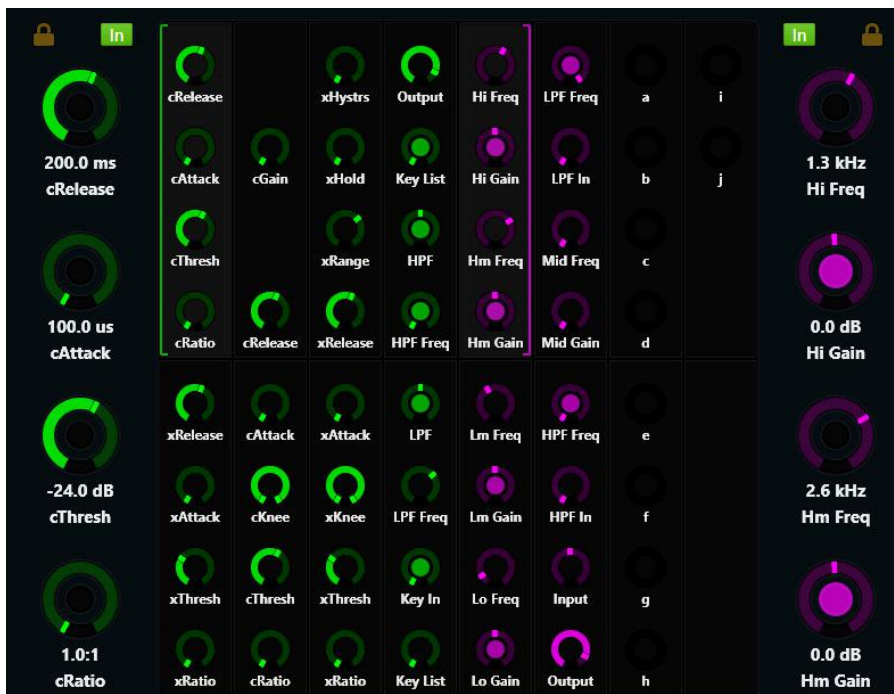

Figure 33. Function Editor
- A left bracket (green in Figure 33) indicates the parameters to its right are assigned to the left Attention Track Knobs.
- A right bracket (purple in Figure 33) indicates the parameters to its left are assigned to the right Attention Track Knobs.